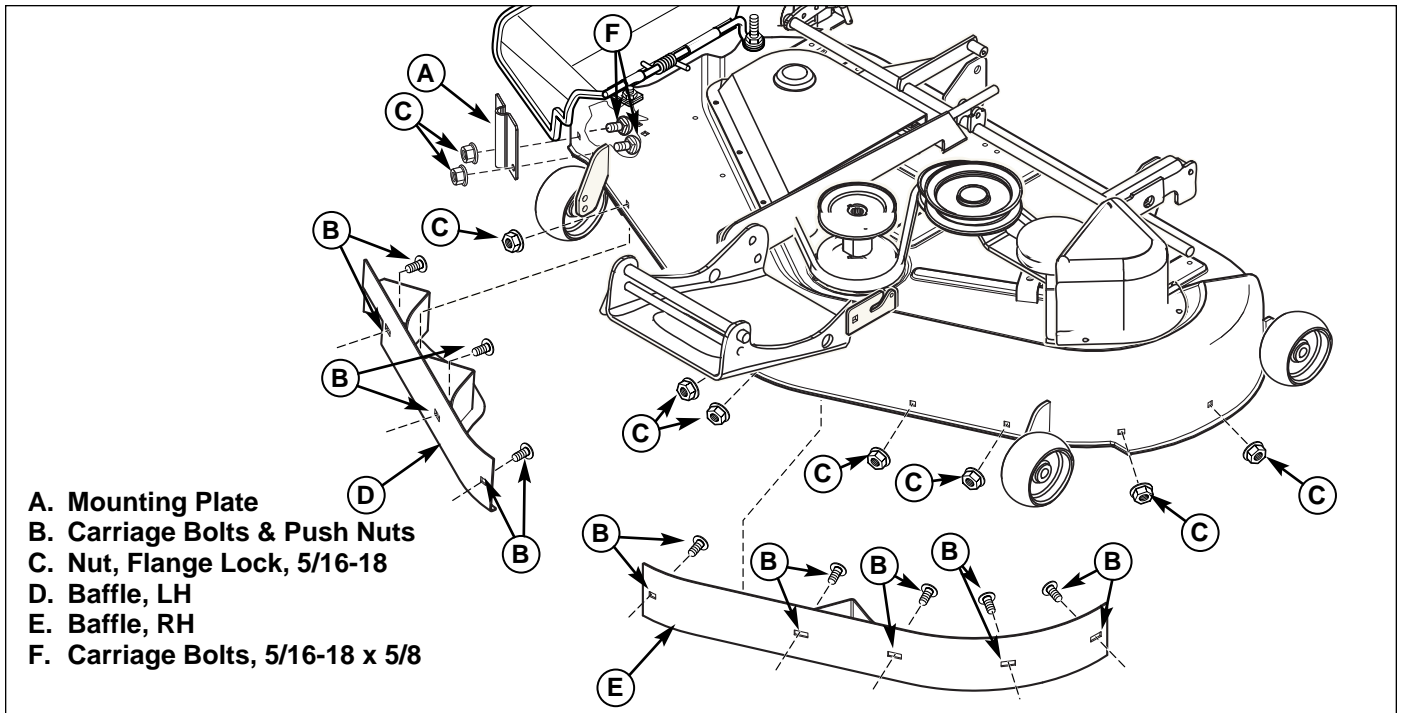
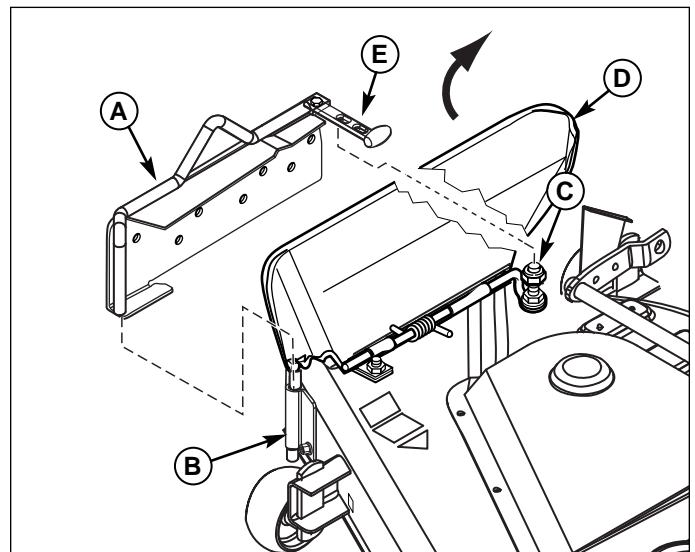

Figure 7. Baffle Installation
Figure 8. Mulch Cover Installation
10. Install mounting plate (A, Figure 7) to mower deck securing with 5/16-18 x 5/8 carriage bolts (F), and nuts (C).
11. Install LH baffle (D) and secure with carriage bolts & push nuts (B) and nuts (C).
13. Lift discharge deflector up (D, Figure 8).
14. Insert mulch baffle assembly (A) into mounting plate (B).
15. Pull rubber strap (E) below discharge deflector and secure by placing strap (using second hole in strap) completely over locknut (C).